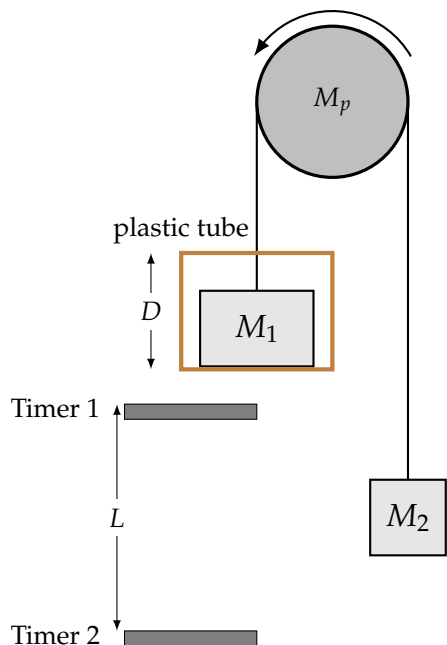

Figure 3: Setup with two photogate timers.
In the first part of the lab, you will measure the acceleration a and then compute g using digital timers. The mass M_1 is placed in a plastic tube that triggers the timers as it passes through them. The setup is shown in Fig. 3.
3. Measure the distance L from the top of one photogate to the top of the other (see Fig. 3). Enter your measurement in Table 1.